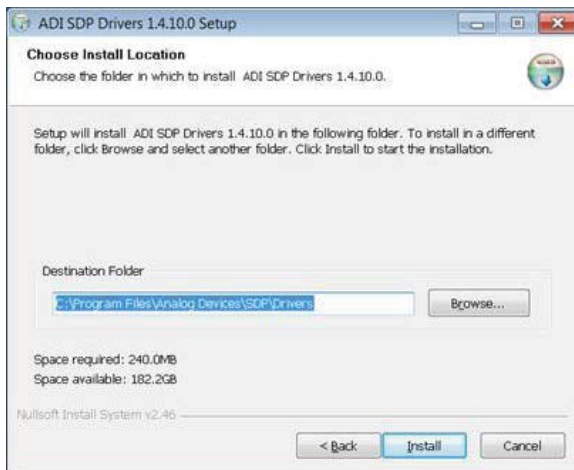

Figure 7. Verify the Destination Folder
3. Click **Install** after verifying the destination folder. Ensure that the system environment has enough space (see Figure 7).